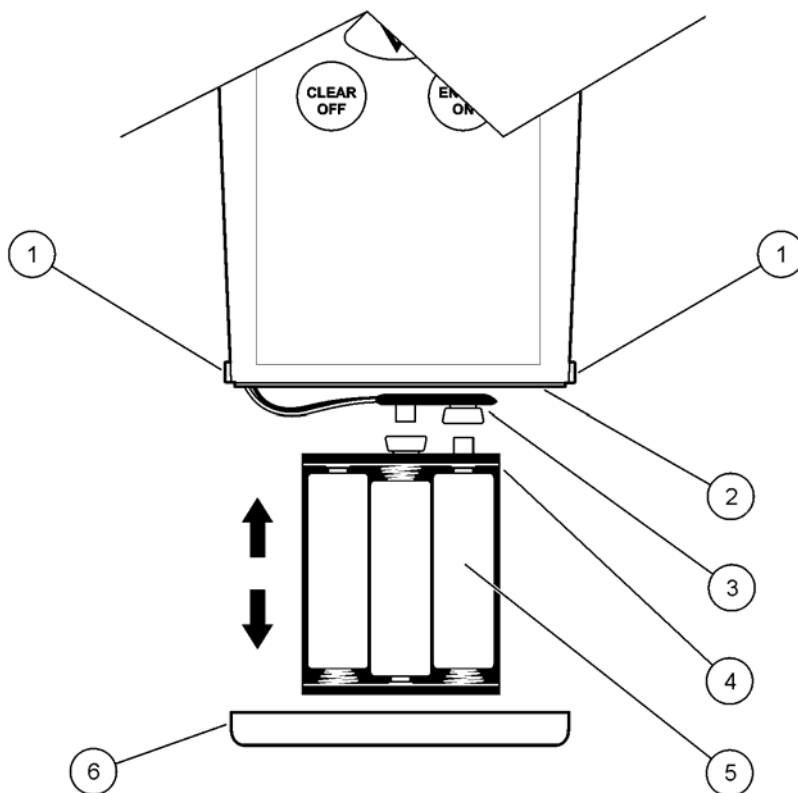

Figure 2 Inserting the rechargeable batteries
The instrument is operated by six rechargeable NiMH batteries (Figure 2).
2. Take the battery holder out of the battery compartment (Figure 2).